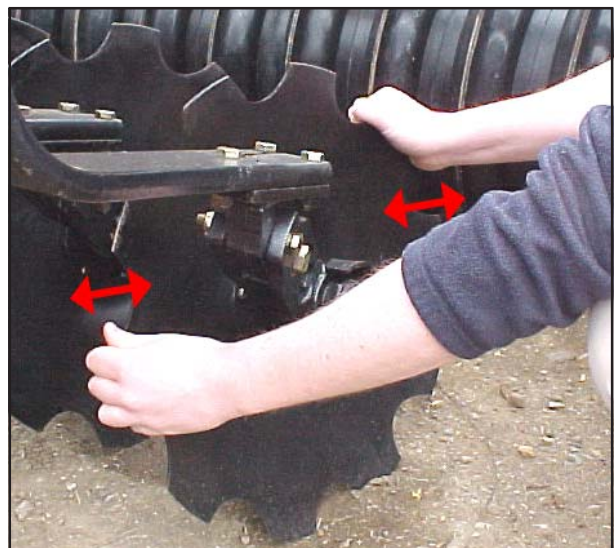

Fig. 5.01: Checking Disc Bearing Adjustment
3. Check main bearing adjustment (twin taper roller) after 50 hours and thereafter seasonally by 'rocking' the disc as per *Fig. 5.01*. If play is evident then the following procedure should be followed. Loosen the small grub screw locking the bearing cap to the housing. Remove bearing caps and locking pins, tighten nuts to inhibit rotation before backing off the nuts slightly until disc rotation is enabled and play is eliminated (usually between 1/6 - 1/12 of a turn). Re-fit the locking pins. Fit and securely tighten disc hub caps and flush with grease until grease shows from seal area.